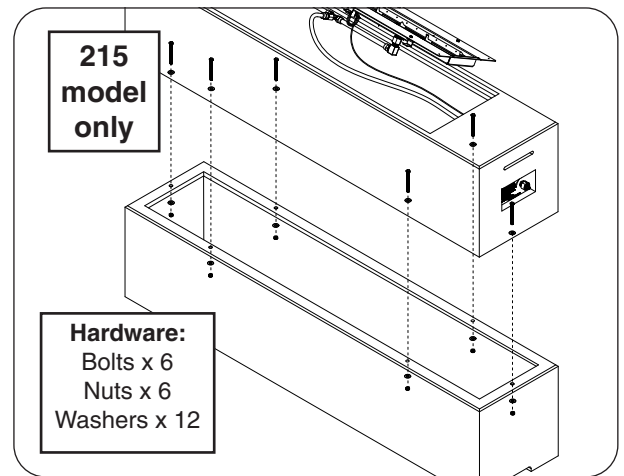

Fig. 25-1 Assemble unit (if applicable)
1. Insert the hardware kits in the order shown in Fig. 25-1. Hand tighten, then use two $\frac{1}{2}$ " open end wrenches (or equivalent) to fasten.